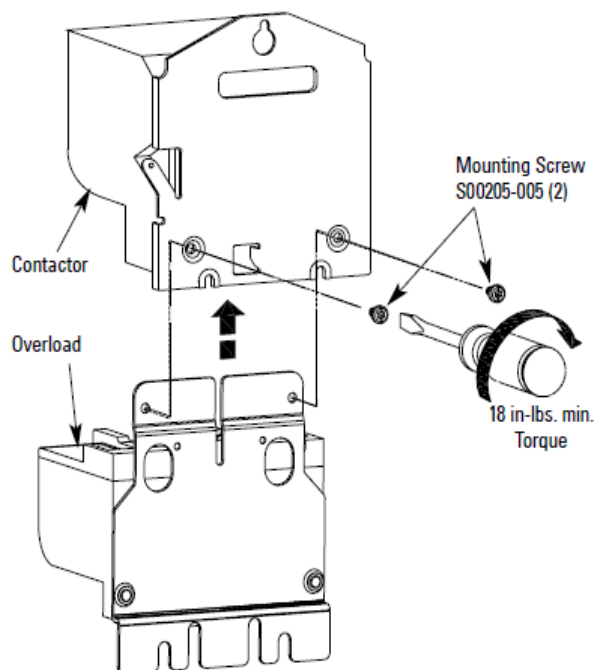

Figure 2
1. Align mounting holes on both overload and contactor mounting plates. Mount the plate with ESP100/ESP200 overload to contactor Cat. No.40BP32A* - 40EP32A* using the (2) screws S00205-005 as shown in Figure 2).